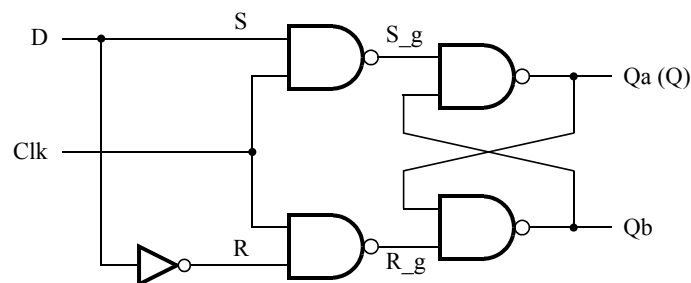
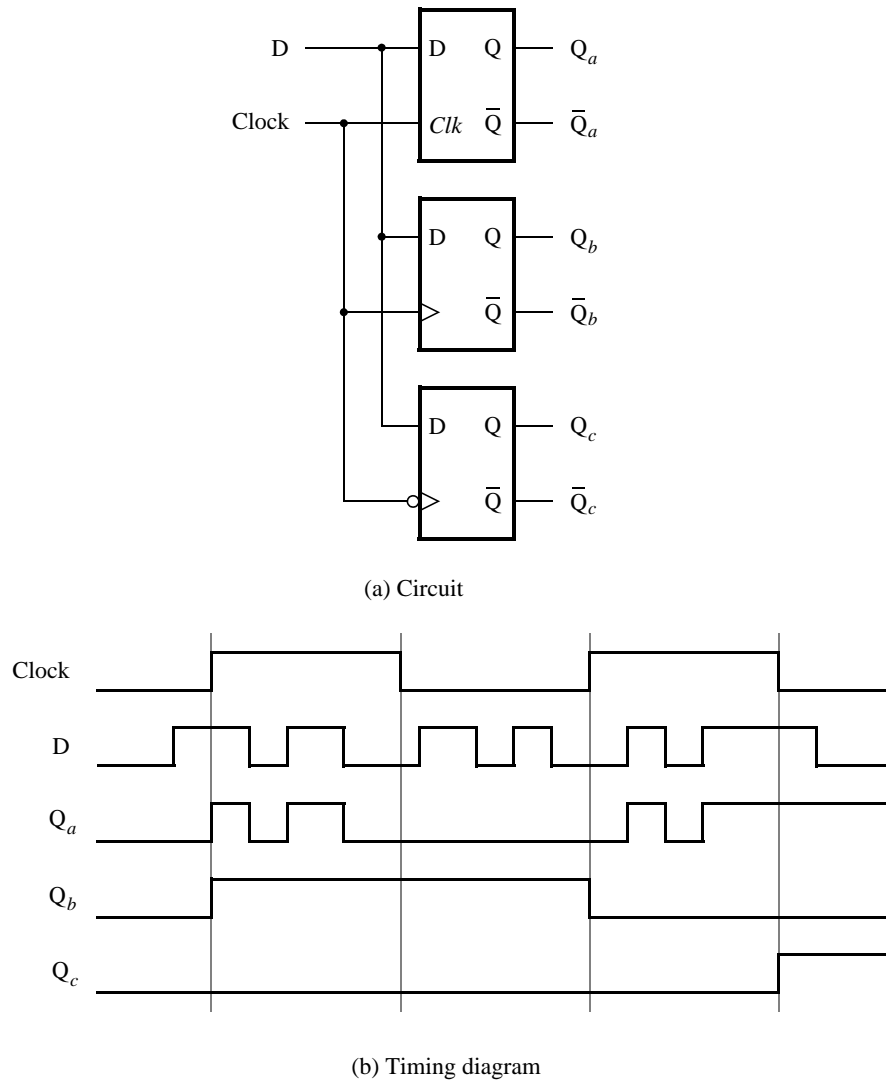

Figure 6: Circuit for a gated D latch.
Figure 8: Circuit and waveforms for Part IV.
Figure 6 shows the circuit for a gated D latch.
Figure 8 shows a circuit with three different storage elements: a gated D latch, a positive-edge triggered D flip-flop, and a negative-edge triggered D flip-flop.
2. Write a Verilog file that instantiates the three storage elements. For this part you should no longer use the `/* synthesis keep */` directive from Parts I to III. Figure 9 gives a behavioral style of Verilog code that specifies the gated D latch in Figure 6. This latch can be implemented in one 4-input lookup table. Use a similar style of code to specify the flip-flops in Figure 8.
4. Use Modelsim to simulate the circuit you created. Use the included testbench file to specify the inputs  $D$  and  $Clock$  as indicated in Figure 8. Make sure that the testbench correctly instantiates the module you created and run the simulation to observe the different behavior of the three storage elements.